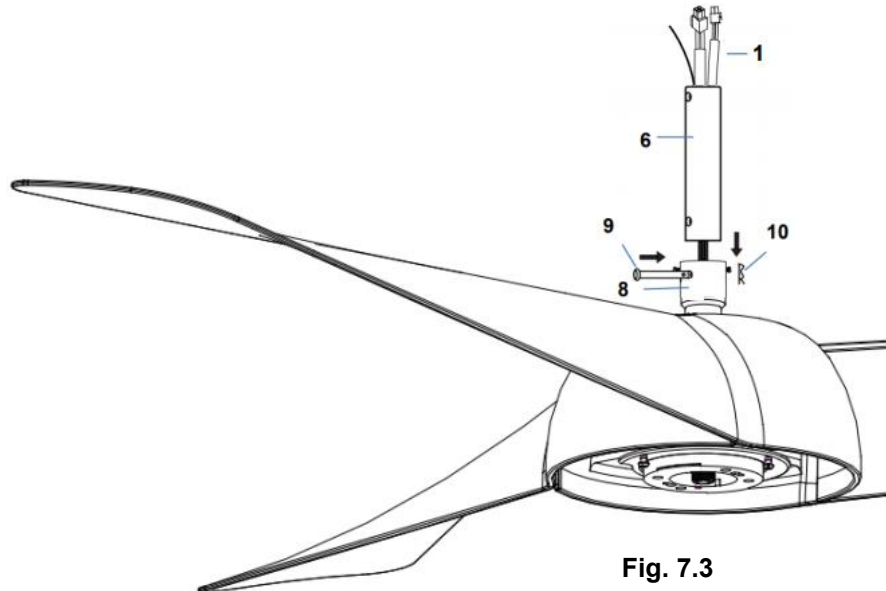

Fig. 7.3
3. Carefully feed the fan wires (1) up through the down rod (6). (fig. 7.3)
4. Assemble the down rod (6) into the down rod coupling housing (8), by inserting and line up the down rod coupling housing holes with the down rod holes and insert the hitch pin (9) and secure with the lock clip (10). (Fig. 7.3)